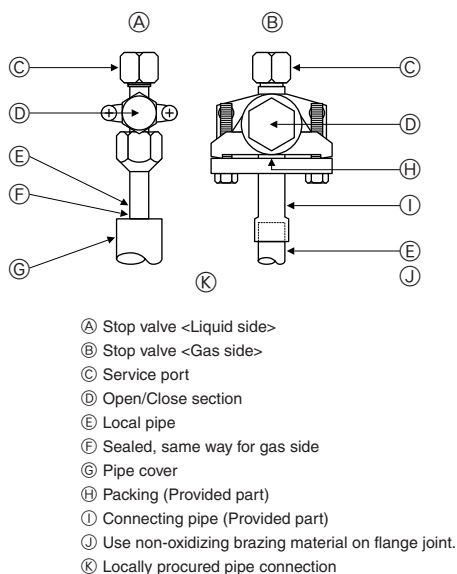

Fig. 5-5
5.4. Refrigerant pipe airtight testing method (Fig. 5-5)
- Make sure the stop valves (A) (B) are closed and do not open them.
- Add pressure to the refrigerant lines through the service port (C) of the liquid stop valve (D).
- If the pressure decreases in steps (2) or (3), there is a gas leak. Look for the source of the gas leak.